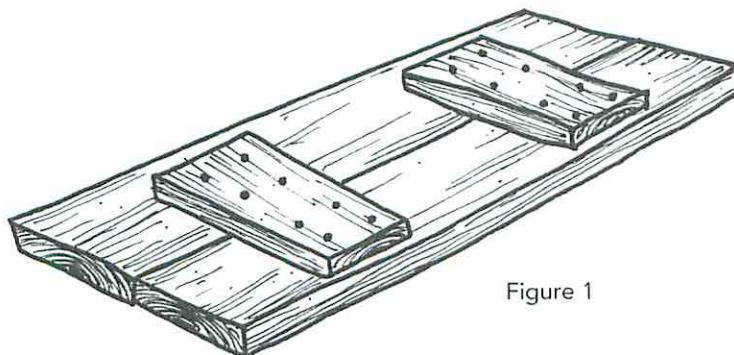

Figure 1
Lay the pieces for your table top joiners (B) on the underside of the table top boards. See Fig. 1. Screw the joiners down with at least four to six screws each. Be sure you don't screw them right through the surface of the table.